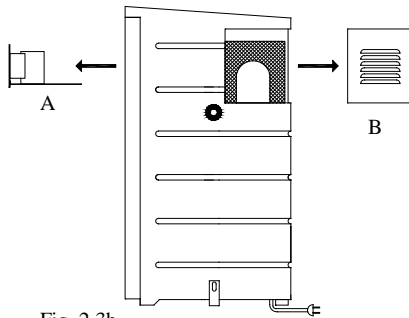

Fig. 2.3b
- Remove the protection cover (B in fig.2.3b) from the cool shaft by loosening the four bolts which hold the cover. If necessary remove the connector and earth cable from the fan on the cover to create more working space. Loosen the two grip nuts from the electro front plate (A in fig.2.3b). Unplug the connectors from the front plate to remove the plate from the enclosure